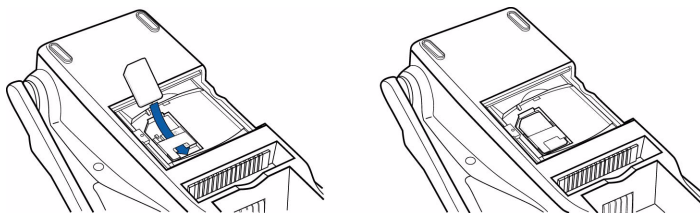

Figure 17 Insert SIM Card into Cardholder
- 3** Slide the SIM card supplied by your provider into the cardholder (Figure 17).
NOTE The SIM cardholder has a notch on one corner to ensure the SIM card is positioned correctly. The SIM card has a notch on one corner for easy orientation in the cardholder. Before inserting the SIM card, position it as shown in Figure 17, with the card's gold contacts facing down.